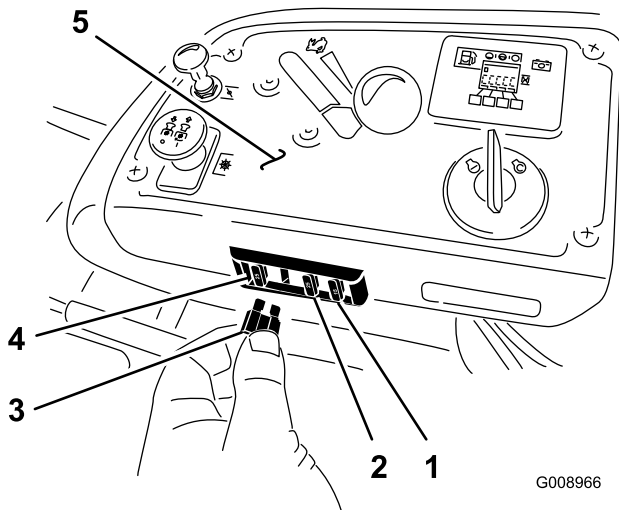

Figure 66
1. The fuses are located on the console to the right of the seat (Figure 66).
3. Install a new fuse (Figure 66).